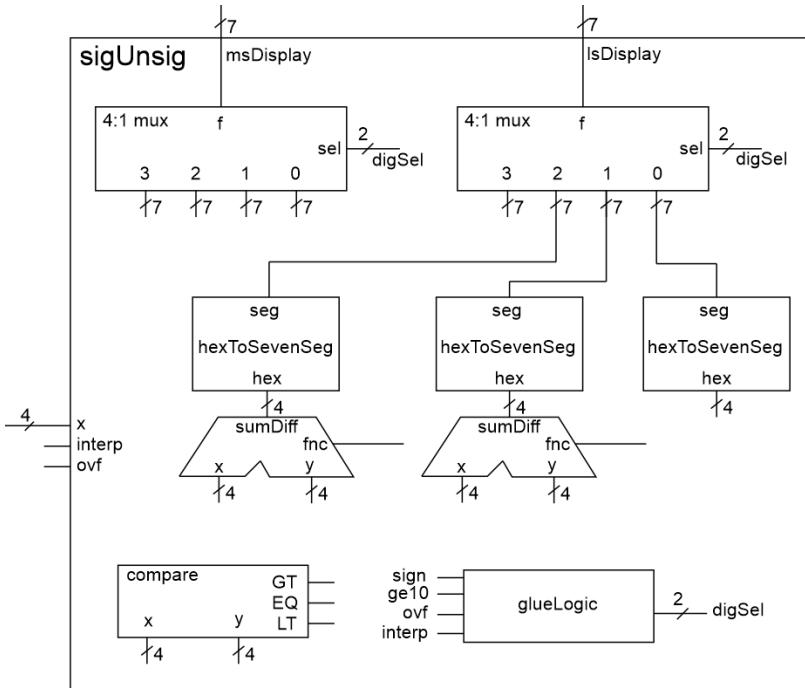

Figure 6.4: The internal architecture of the signUnsig module.
Listing 6.2: Logic that determines the output of the 4:1 muxes in Figure 6.4.
Now we are ready to put the pieces of the sigUnsig module together. The building blocks in Figure 6.4 are captured in the organization described by Listing 6.2, along with some extra hardware.
Complete Figure 6.4 by adding the following:
All that remains is to define the contents of the `glueLogic` box in Figure 6.4.
Now complete the truth table in Table 6.3 for the `glueLogic` box in Figure 6.4.
- Complete Figure 6.4, including: